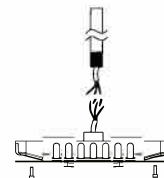

Figure 4
1. Connect the wiring to the local power supply using the 3/4"NPT Stem (Figure 4).